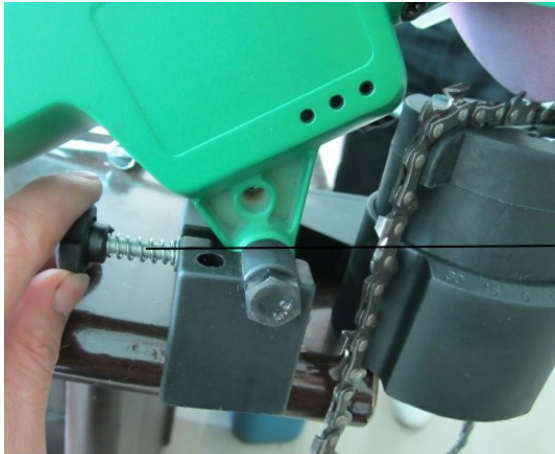

Figure 7: Screw (45)
4. Loosen the **lock wheel (46)** to allow the entire housing to turn. Rotate the casing to match the degree of angle you need on the angle gauge. Chains come in various sizes with varying degrees of sharpening angles. Check with your chain manufacturer's manual to determine what degree you need to sharpen at. Once the degree is set, tighten the **lock wheel (46)**.
5. Lower the **engine casing (12, 24)** so that the **grinding wheel (5)** slightly touches the chain tooth.
6. Hold it in position while you tighten the **screw (45)** so that the wheel will only go down to that point (see **fig. 7**).